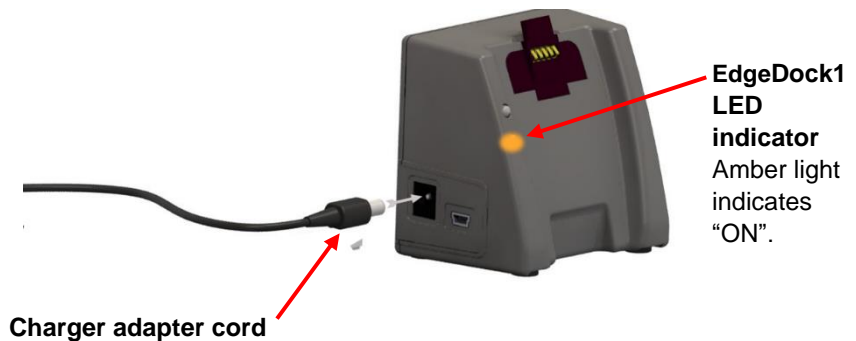

Figure 2-7
1. Plug in the power adapter to the EdgeDock (see Figure 2-7).